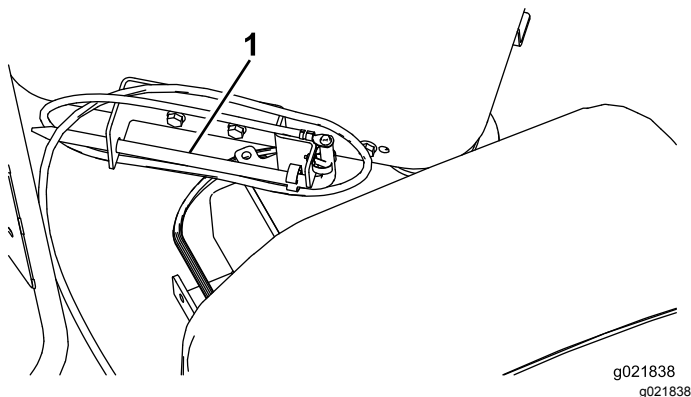

Figure 43
1. Remove the grounding stake from the holder on the side of the operator platform (Figure 43).